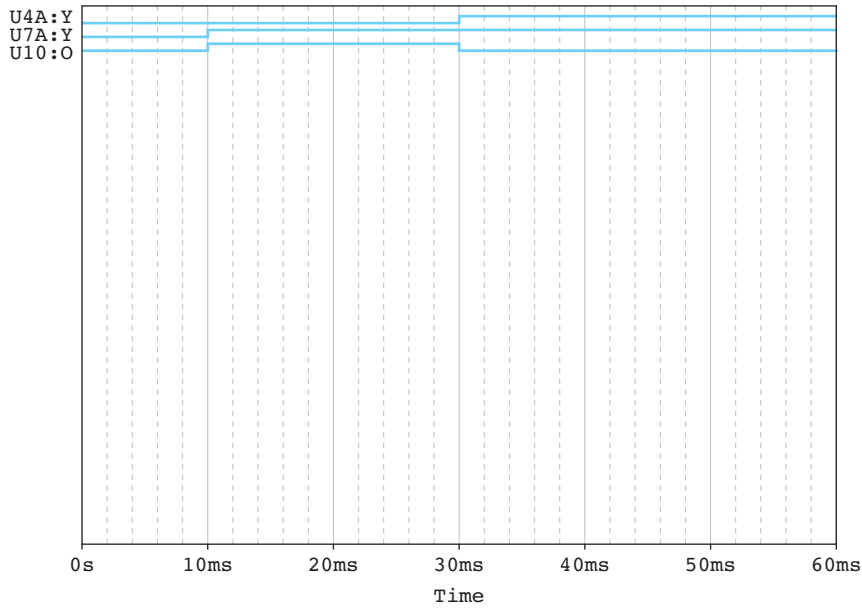

FIGURE 10.66 Digital output of Example 10.22 Part (b).
- The simulation plot is shown in Figure 10.66. Notice that there are only two values for each output. The line with higher level is 1, while the lower level is 0.